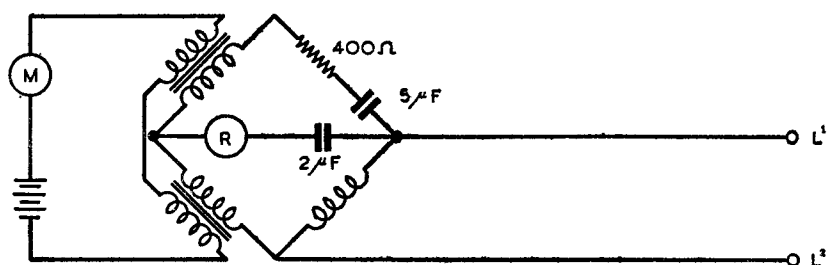

FIG. 4.—A.C. BRIDGE CIRCUIT
(b) The secondary windings form two arms of an A.C. bridge to suppress side tone (fig. 4).
- (iii) *Speech communication.* The circuit is in the form of an A.C. bridge (fig. 4), the transformer windings forming one side, the other being made up by the bridging coil, the balancing network of a 400-ohm resistance and a $5\ \mu\text{F}$ condenser is inserted in series with the receiving unit R to prevent D.C. from passing through it. When the handset is removed from the cradle the contacts close and the microphone and battery circuit is completed. The buzzer is now used as a transformer.